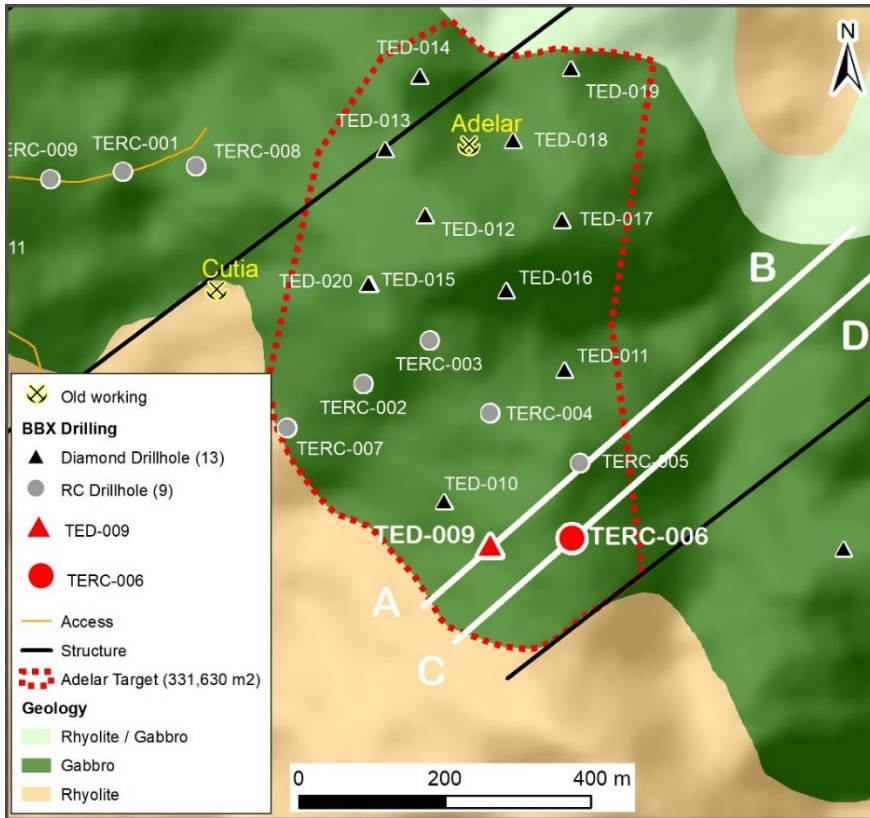
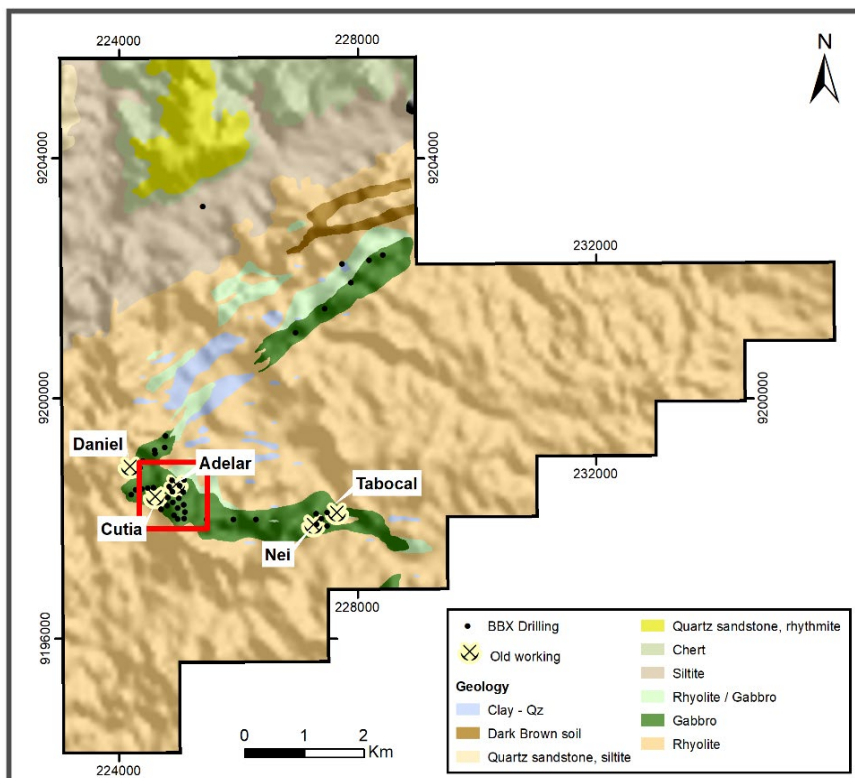

Figure 1 – Adelar target drilling collar summary
Figure 2 – Três Estados project
Following the delivery, installation, and calibration of its newly acquired Atomic Absorption Spectrometer (AA), the Company completed the assaying of RC drill hole TERC-006 from its 2017 drilling programme and DD drill hole TED-009 from its 2020-21 drilling programme (Figure 1). Both drill holes are in the Três Estados Project (Figure 2). Assays were conducted for gold, platinum, palladium, iridium, and rhodium. Widespread intervals of platinum and iridium mineralisation were encountered in both holes.